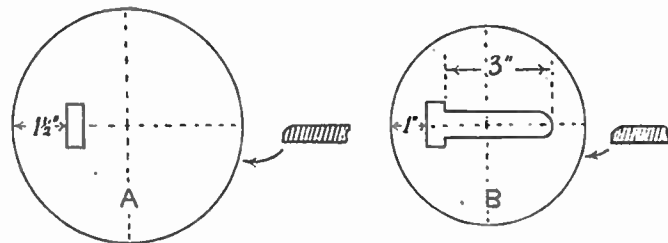

Fig. 2—Details of the base discs
If a printing frame is not used, an alternative method is shown in Fig. 2. Lengths of rebated moulding are screwed to the top, giving a firm basis for the glass printing surface. This is essential or the glass may break under pressure or bend slightly, losing firm contact between negative and paper. Two lids of plywood are shaped, one
Fig. 2 gives details of the discs. The lower disc (A) and the upper (B) are respectively 6½ ins. and 5½ ins. in diameter. The broken lines dividing the discs into quadrants serve for accurate positioning of the slots.